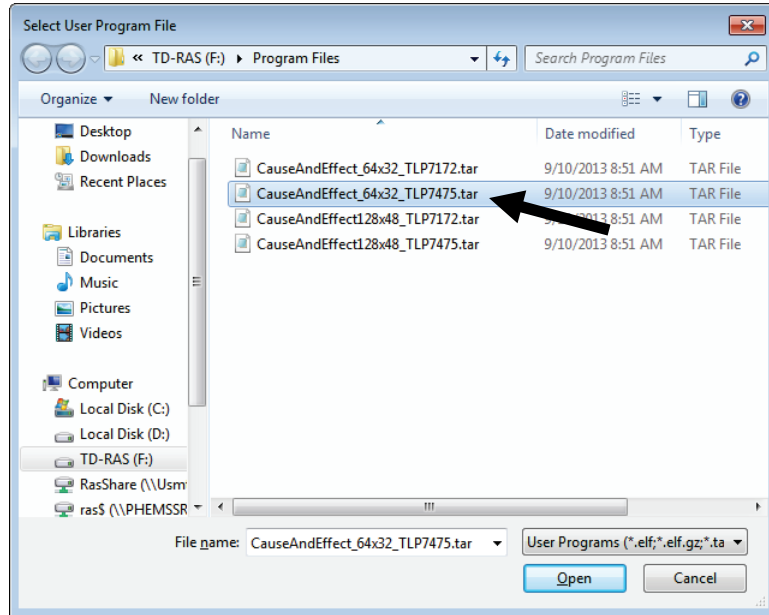

Figure 4. Select User Program File
5. Select the path and user program file to download from the CD-ROM. (Program files are typically located in the Program Files folder on the CD-ROM). As *Figure 4* shows, the screen lists all valid user program files with the **.tar** extension: